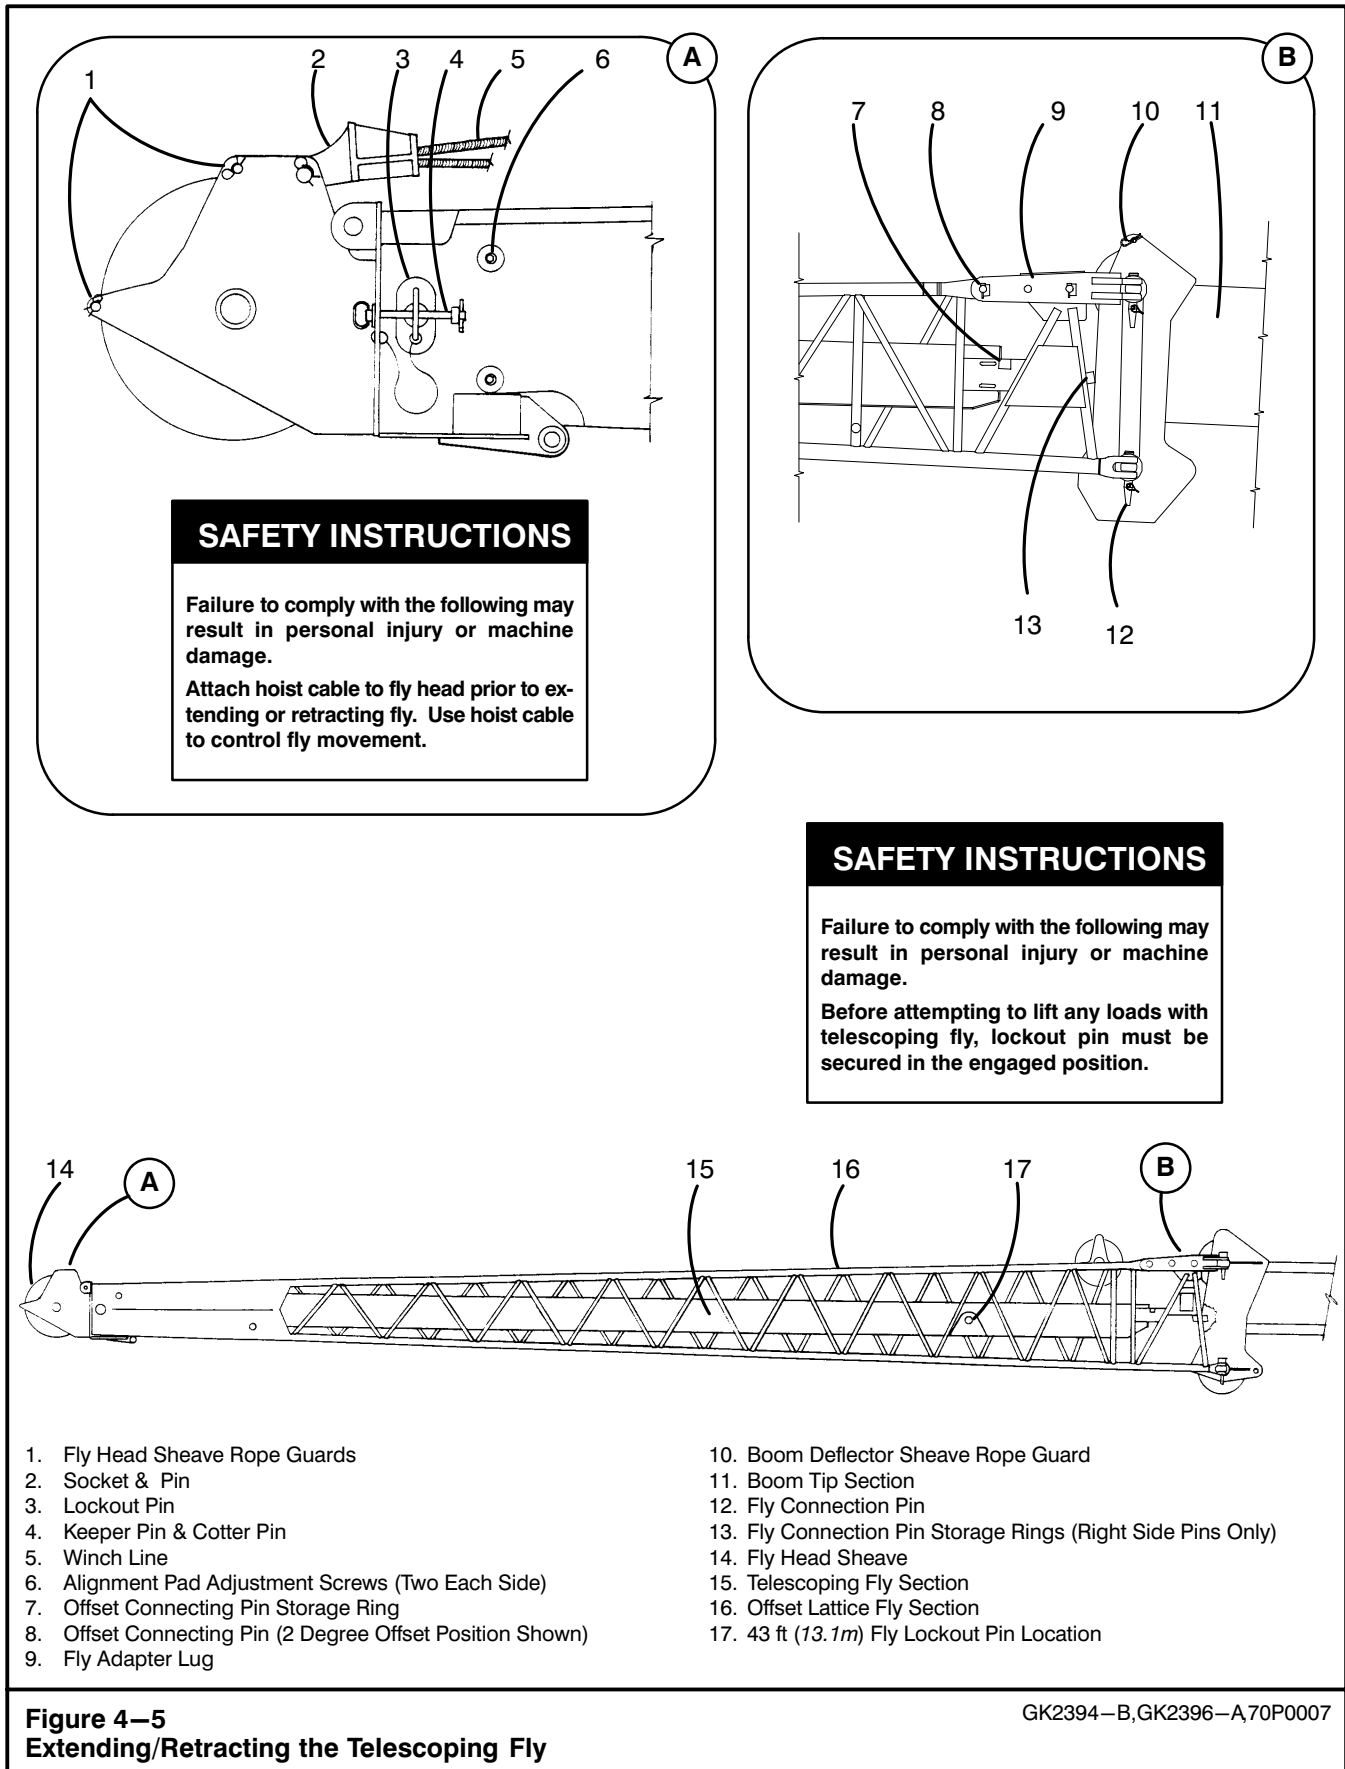

Figure 4-5
9. Remove the fly head sheave rope guards and connect the winch line to the fly head using the winch line socket and pin. Refer to Figure 4-5.